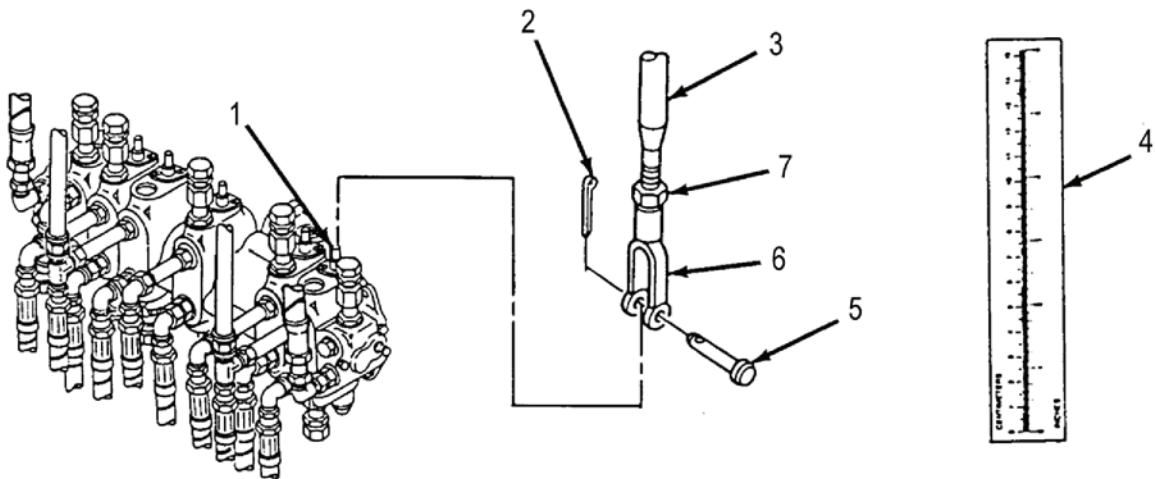

Figure 8. SPRUNG/UNSPRUNG Valve Linkage
- Note position of control valve plunger (Figure 8, item 1) when SPRUNG/UNSPRUNG control lever is in neutral (off) position.
- Remove cotter pin (Figure 8, item 2), straight pin (Figure 8, item 5), and clevis (Figure 8, item 6) from control valve plunger (Figure 8, item 1). Discard cotter pin (Figure 8, item 2).
- Loosen jam nut (Figure 8, item 7). Turn clevis (Figure 8, item 6) clockwise to shorten rod (Figure 8, item 3), counterclockwise to lengthen rod (Figure 8, item 3).
- Hold measuring device (Figure 8, item 4) on face of SPRUNG/UNSPRUNG control valve. Have assistant move SPRUNG/UNSPRUNG lever between SPRUNG and UNSPRUNG mode. Measure distance of plunger travel.
- Adjust clevis (Figure 8, item 6) so plunger (Figure 8, item 1) travel distance is correct (9/32 in. (7 mm)).
- When proper adjustment has been made, coat threads of rod (Figure 8, item 3) with sealing compound primer and sealing compound. Tighten jam nut (Figure 8, item 7) against clevis (Figure 8, item 6).
- Connect clevis (Figure 8, item 6) to control valve plunger (Figure 8, item 1) with straight pin (Figure 8, item 5) and new cotter pin (Figure 8, item 2).